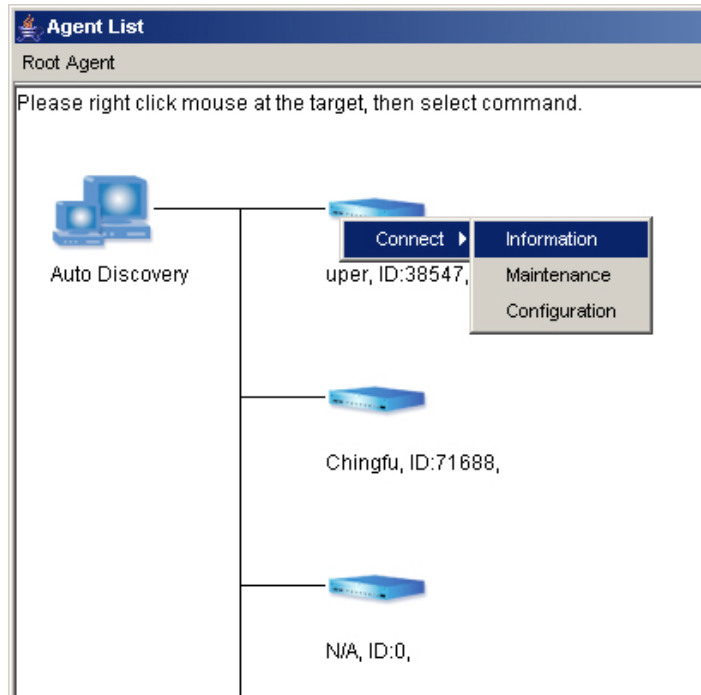

Figure 6-6: Retrieve IP List: IPs Managed by Root Agents
**Step 1.** If you would like to see the available RAID subsystems that are connected to the network or a specific root agent, you may click the **Show Root Agent List** button on the bottom of the RAIDWatch Connection window. The window displays the tree tables of the available RAID systems that are detected by Auto Discovery function. An example of an Agent List window is shown in **Figure 6-6**.